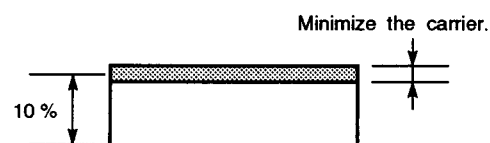

Fig. 5-1-25
- Adjust VR106 so that the Pedestal level becomes 10 % and the carrier becomes minimum as shown in Fig. 5-1-25.
- Adjust VR206 so that the Pedestal level becomes 10 % and the carrier becomes minimum as shown in Fig. 5-1-25.
- Adjust VR306 so that the Pedestal level becomes 10 % and the carrier becomes minimum as shown in Fig. 5-1-25.